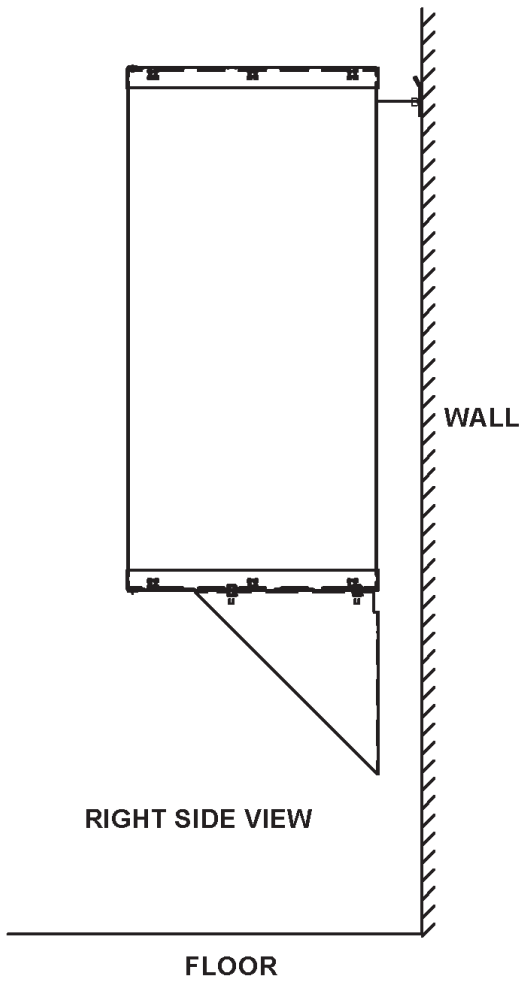

FIG. 3
- 2) ATTACH UPPER WALL BRACKET TO WALL. SEE FIG 3 (SCREWS PROVIDED BY INSTALLER).
- 4) MOUNT CABINET WITHOUT FRONT PANEL (GRILLE), TO THE WALL (SEE FIG 3.)